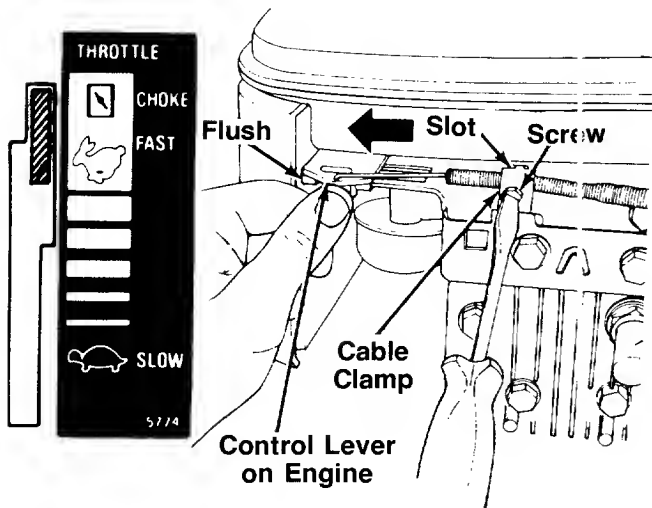

FIGURE 6A.—Models 826R and 836R
1. Push the throttle control lever on the handle all the way forward to CHOKE position. See figure 6A.
2. The throttle control cable is attached to the upper handle. Route the throttle control cable under the lower handle. Route the cable to the **outside** of the handle wheel bracket assembly and height adjustment lever. Hook the "Z" end of the throttle control cable into the hole in the control lever on the engine. See figure 6A.
3. Using a 5/16" wrench or nutdriver, remove the screw on the cable clamp shown in figure 6A. Slip the control cable under the clamp. Replace the screw (cable should be above the screw), but do not tighten screw (cable must still move freely beneath the clamp). Make certain the tab on the cable clamp is seated into the slot on the engine.
4. Push the control lever on the engine as far toward the **outside** of the engine as it will go. The edge of the control lever should be flush with the bracket on the engine. See figure 6A. Hold the control lever in this position as you tighten the screw on the cable clamp to secure the throttle cable.